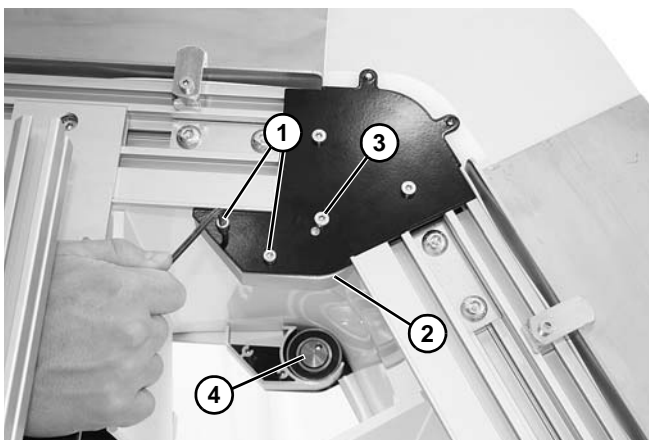

Figure 51
6. If equipped with an upper knuckle, remove screws (**Figure 51, item 1**) and remove guard (**Figure 51, item 2**) on both sides of knuckle.
7. Remove screws (**Figure 51, item 3**) and remove roller bearing (**Figure 51, item 4**) on both sides of knuckle.